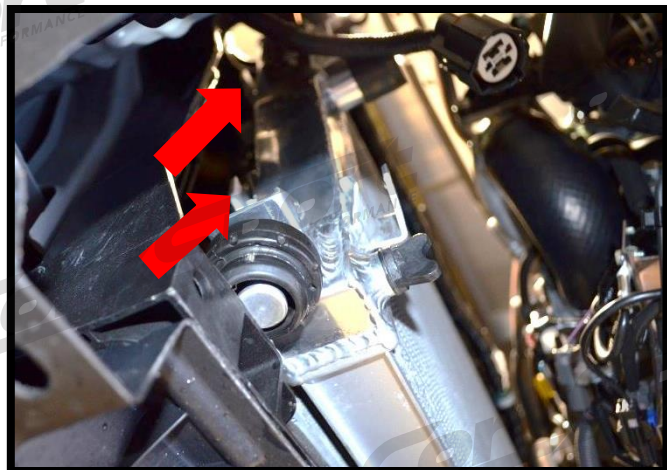

Figure 2d
- e) **Guide the A/C condenser tabs into the hooks in the front of the radiator** (**Figure 2d**). There are two (2) mounting hooks on each side of the aluminum radiator to hold the A/C condenser.
e) Guide the A/C condenser tabs into the hooks in the front of the radiator (red arrows in Figure 2d). There are two (2) mounting hooks on each side of the aluminum radiator to hold the A/C condenser.